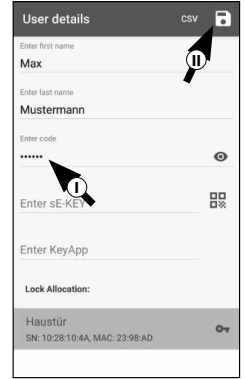

Fig. 58
- 1 Delete the entry of the relevant line and, if required, enter a new user-defined code (I) (Fig. 58).
- 2 Save your settings by tapping the disk symbol in the top right-hand corner (II) (Fig. 58).